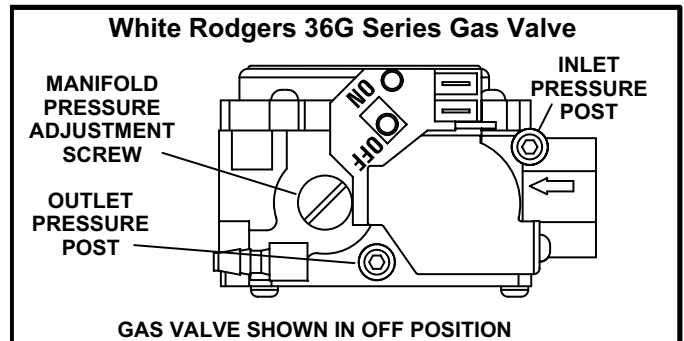

FIGURE 2
Operating the Gas Valve (Figures 2 and 3)
- 6 - *White Rodgers 36G Gas Valve* - Move gas valve switch to **OFF**. See figure 2 for the White Rodgers 36G valve.
8 - *White Rodgers 36G Gas Valve* - Move gas valve switch to **ON**. See figure 2 for the White Rodgers 36G valve.